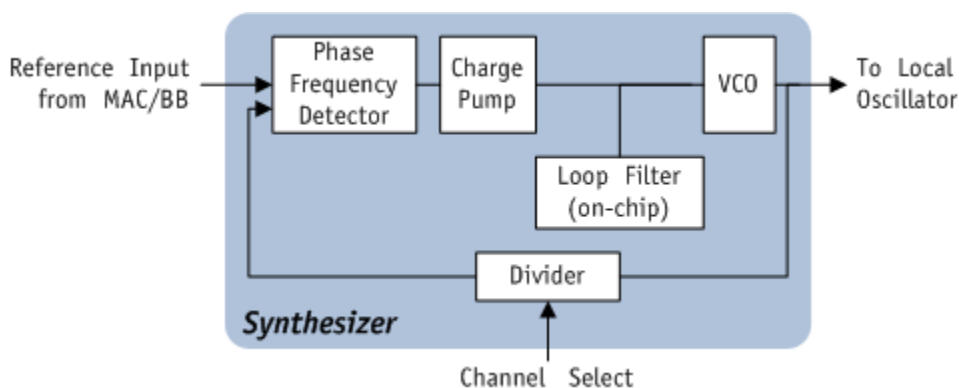

Figure 6-2 Radio Synthesizer Block Diagram
The radio supports one on-chip synthesizer to generate local oscillator (LO) frequencies for the receiver and transmitter mixers. The synthesizer is a fractional -N synthesizer, and its topology is shown in Figure 6-2.